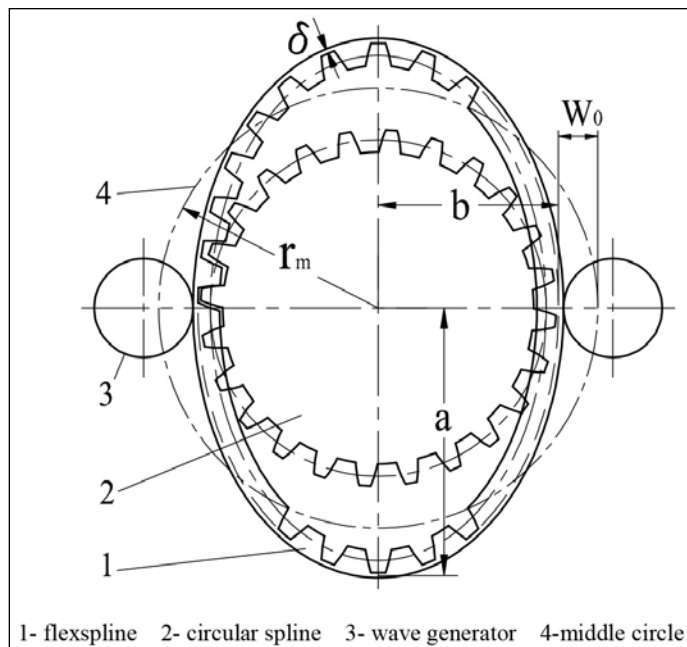
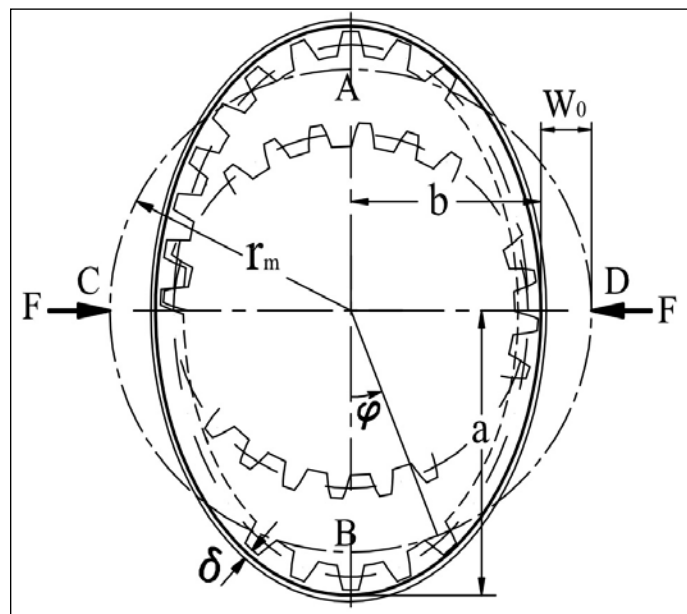

Figure 1 Generalized drawing of HGD with EWG.
Figure 2 Shape change of mid-layer in flexspline—from circle to ellipse.
An HGD mechanism with EWG (Ref. 4) is also composed of three basic parts: 1) flexspline; 2) circular spline; and 3) wave generator (Fig.1). The circular spline is an external gear; the flexspline is a thin-wall gear ring with internal teeth, and its tooth number is slightly more than that of the circular spline. Most harmonic gear devices are of double waves, and, in this case, the tooth number of the flexspline is usually two more than that of the circular spline.
Initially, the profile of the flexspline is circular in shape (Figs. 1 and 2) before the flexspline is compressed by the EWG. The inner side diameter of the wave generator is slightly less than the outside diameter (equal to  $2r_m$ ) of the flexspline before it is deformed. The flexspline is squeezed into an oval under the action of EWG, which contacts with the flexspline. Teeth near both ends of the minor axis of the ellipse for the flexspline mesh completely with the teeth in the circular spline, and the teeth near the major axis of the ellipse separate completely from those in the circular spline; teeth on other segments are in transition states of coming into or out of mesh gradually.
The mid-layer of the flexspline before it is deformed is a circle, or middle circle. If the flexspline is a standard gear (no addendum modification), the radius of the middle circle in the flexspline (Figs. 1 and Fig. 2) is determined by the equation:
**Bending moment on section in flexspline.** The flexspline in Figure 1—a cylindrical shell with teeth inside—is an orthotropic anisotropic shell (for the flange or rim of the flexspline) in structure. There exist structural nonlinearities, since the teeth on the rim are equivalent to longitudinal reinforcing ribs, and geometric nonlinearities of large deflection because the ratio of radial maximum deformation to rim's wall-thickness of the flexspline is bigger than 0.2. It is therefore difficult to obtain an exact solution in internal force, deformation and stress distribution on the flexspline's rim under the action of EWG.
**Radial deformation of mid-layer in the flexspline.** Radial deformation in major and short axes of elliptic mid-layer on the flexspline has the greatest influence on meshing quality between the flexspline and the circular spline, so the fluctuations in length must be analyzed for vertical diameter AB and horizontal diameter CD on the mid-layer (Figs. 2 and 3).
From Figure 2, it is directly seen that the radial maximum deformation
To simplify the discussion, assume that the flexspline and circular spline are two standard gears. From the point of view for proper meshing between two gears, the reference circle on the circular spline should coincide with the reference line near the short axis of the elliptic mid-layer of the flexspline (Fig. 1). In other words, the length of short semi-axis  $b$  should satisfy the following relationship:
Obviously,  $W_0 = r_m - b$  (Figs. 1 and 2). We obtain  $r_m - b = 0.5m (Z_R - Z_G)$  by subtracting Equation 6 from Equation 1. Parameters of  $W_0$ ,  $m$ ,  $Z_G$  and  $Z_R$  must obey the following expression: